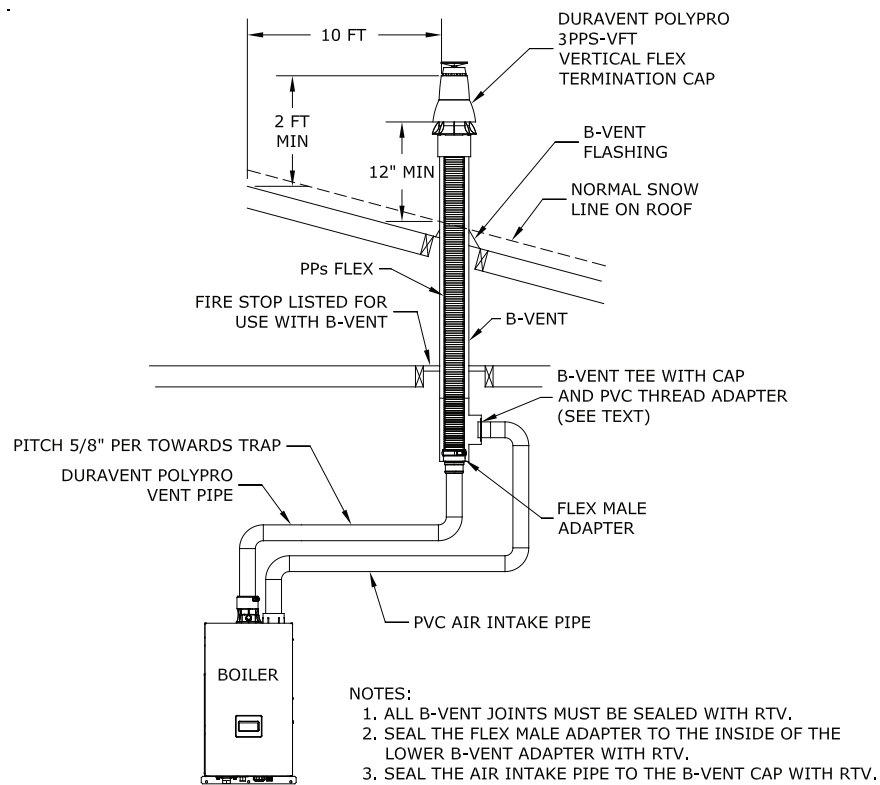

Figure 7.19: Duravent PolyPro B-Vent Air Chase System (Vent Option #9)
3. Requirements for B-Vent Air Chase Options – Observe the following additional requirements when using an abandoned B-vent chimney as an air chase as described in Options # 9 & 10. Also refer to Figures 7.19 & 7.20.
Example: A 135MBH model is to be installed as using Vent Option 9 as shown in Figure 7.19. The following components are used: